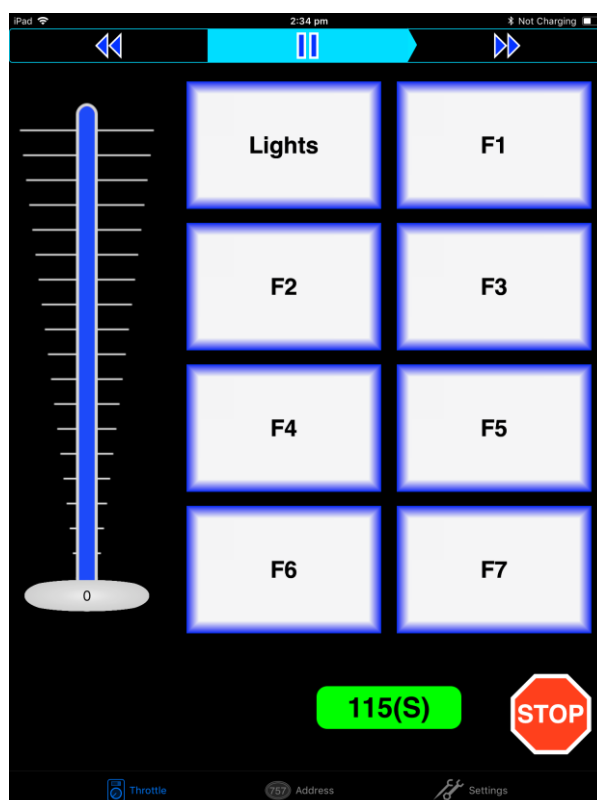

Figure 11 The WiThrottle "Throttle" screen
(12) Tap the Throttle tab at the bottom-left of the screen and you can begin driving as Figure 11. Each time you make a change to the locomotive's state, both the green network LED and the blue Cab Bus LED will flash.